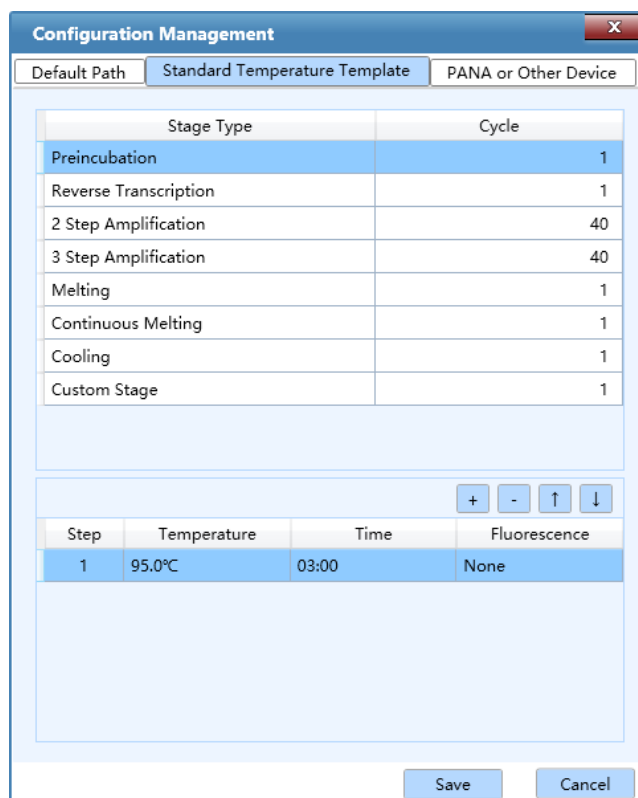

Figure D-3.8b. Configuration Management Interface - Standard Temperature Template Tab
- ▶ **Standard Temperature Template** tab: 7 predefined standard temperature templates are displayed in this tab, as shown in figure D-3.8b. These templates are provided by the application software for temperature program stage settings.